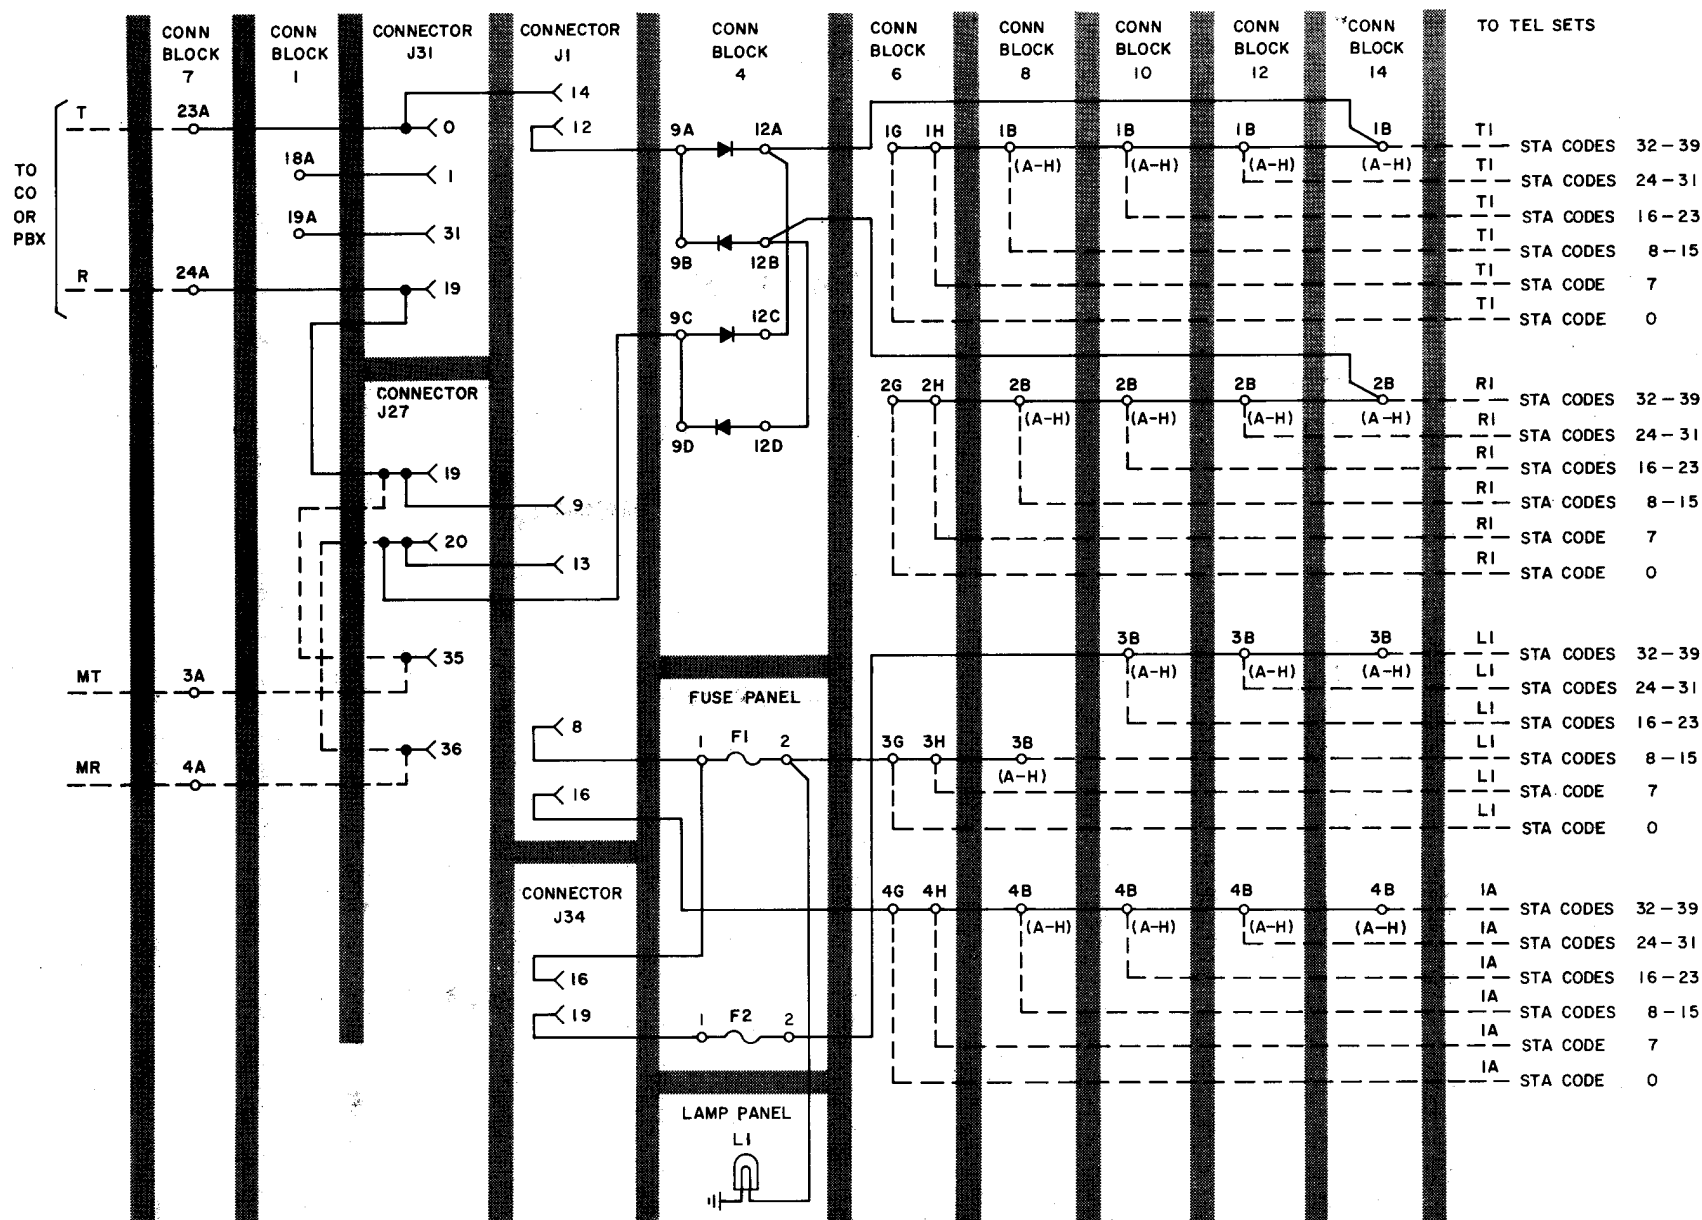

Fig. 52—CO/PBX Line Circuit 1—580A KSU
6.16 Tables X, Y, and Z are provided as an aid for maintenance of the lamp driver circuit. Refer to Fig. 52 through 79 (connector pin 8 of connectors 1 through 14) for further illustration of lamp circuitry.